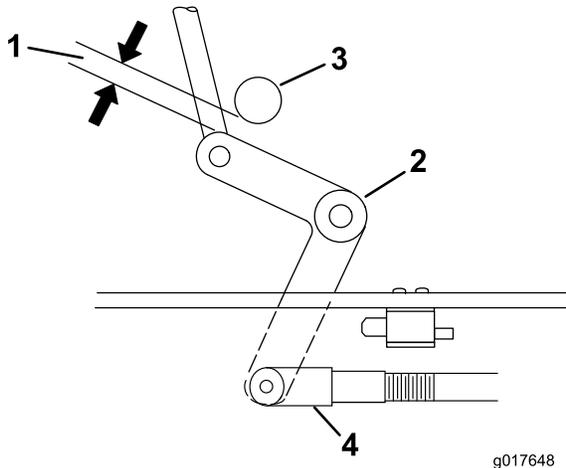

Figure 50
4. Adjust the linkage length to where the lower end of the bellcrank just clears the axle support gusset (Figure 50).
9. Loosen the nut against the yoke (Figure 50).